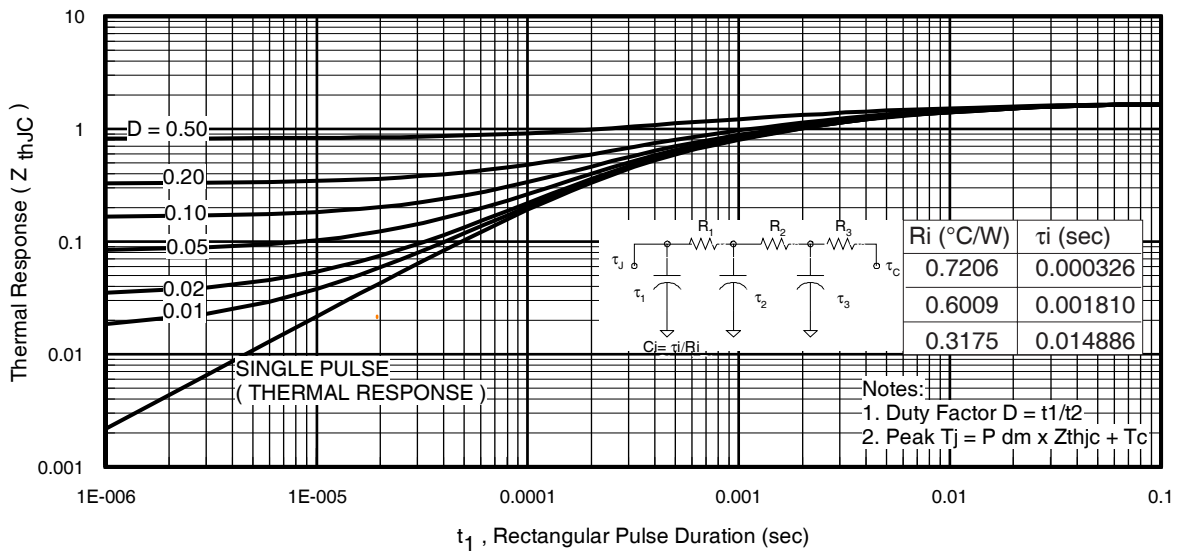

Fig 11. Maximum Effective Transient Thermal Impedance, Junction-to-Case
- ① Repetitive rating; pulse width limited by max. junction temperature. (See fig. 11).
- ② Limited by T_{Jmax} ; starting $T_J = 25^\circ\text{C}$, $L = 0.11\text{mH}$
$Z_{thJC}(D, t_{av})$ = Transient thermal resistance, see figure 11)